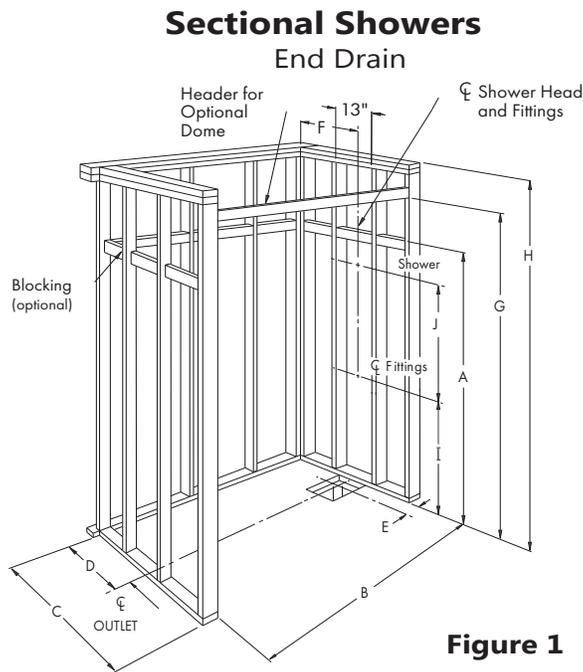

Figure 1
3. Review Figure 1 to make sure alcove is of proper size. If a fire rated alcove is required, approved finish material must be installed prior to unit installation. Access to drain and supply connections should be provided so that these connections may be made after the unit has been installed. Framing alcove must reflect dimensions on diagrams to permit unit installation. Note in diagrams the required opening in the floor to provide clearance for the drain fitting and connection.